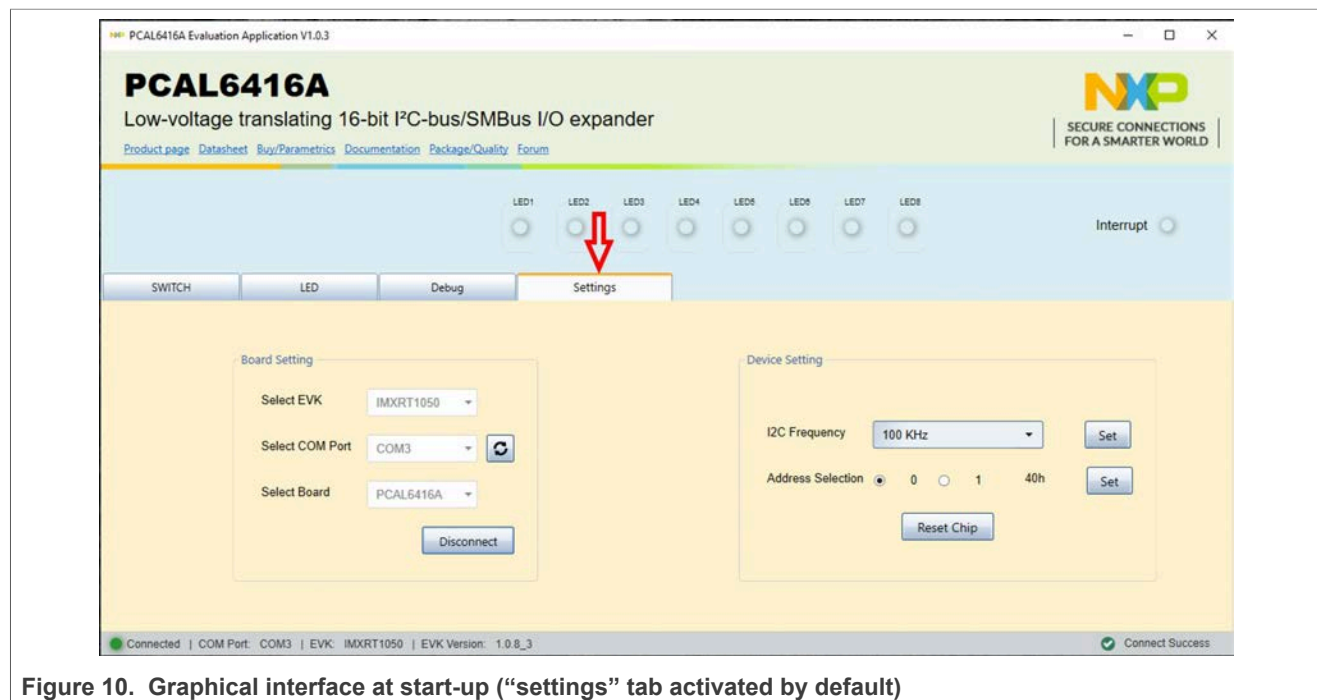

Figure 10. Graphical interface at start-up (“settings” tab activated by default)
Once installation is complete, assure that one of the mentioned three EVKs with attached PCAL6408A-ARD daughter board is connected to PC and powered-on. Open NXP\_(PCAL65x4,PCAL64xxA) GUI application. An interface will appear as is shown in Figure 10:
- **Select Board:** allows the user to select the correct daughter board (the application can support four different boards). In Figure 10, the selected board is PCAL6416A. Selecting a wrong daughter board causes the connection to fail and a pop-up window with the message: *“Unable to Connect with Daughter Card”* appears on the screen.